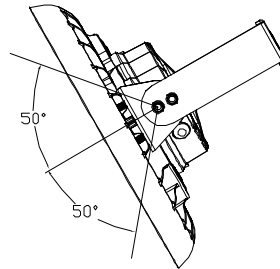

Figure7
5. User can adjust 50° to the left or right vertically(Figure7)